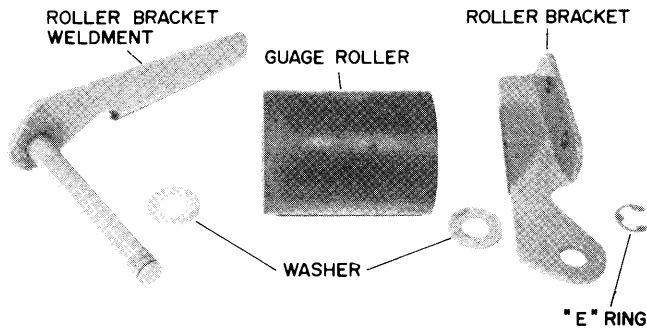

Fig. 2
1. Assemble the deck gauge roller. Install a flat washer (item 2), gauge roller (item 3), flat washer (item 2) and roller bracket (item 5) on the roller bracket weldment (item 4) and secure with "E" ring. See Fig. 2